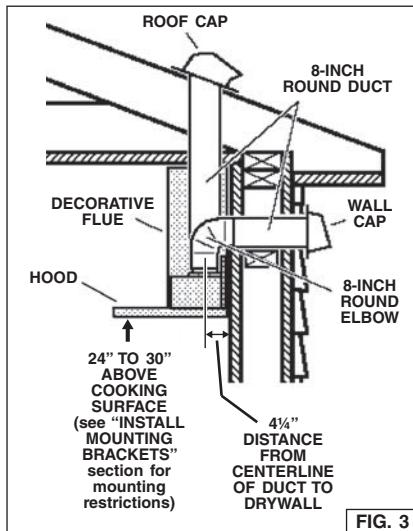

FIG. 3
1. Decide where the ductwork will run between the hood and the outside. Fig. 3.